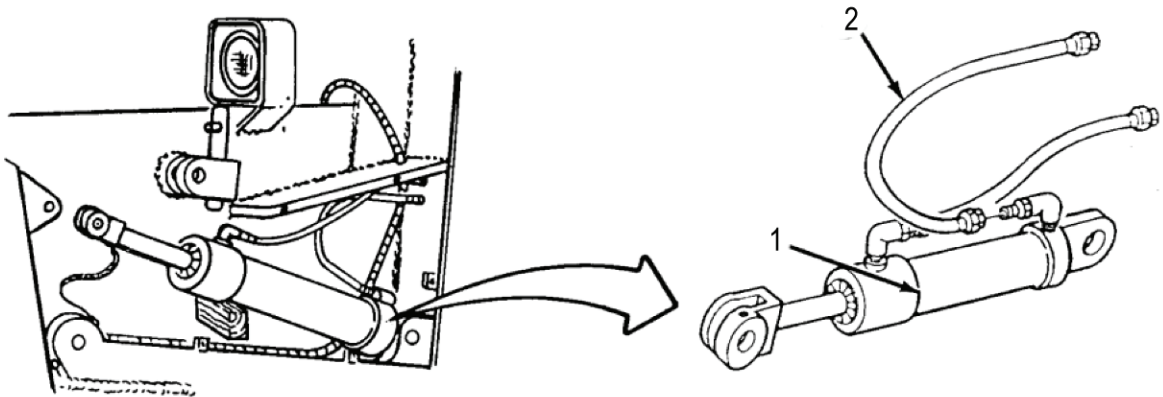

Figure 13. Apron Cylinders Oil Flow Test
- Extend apron cylinders (Figure 13, item 1) fully. Stop engine. Relieve hydraulic pressure by moving APRON CONTROL lever UP and DOWN several times, and disconnect left and right APRON CYL-#19 hoses (Figure 13, item 2) from apron cylinders (Figure 13, item 1). Hold open end of each hose (Figure 13, item 2) in a bucket.
- Have assistant start engine and slowly move APRON CONTROL lever to UP position. Observe oil flow from both APRON CYL-#19 hoses. Stop engine; relieve hydraulic pressure. Reconnect left and right APRON CYL-#19 hoses (Figure 13, item 2) to cylinders (Figure 13, item 1).